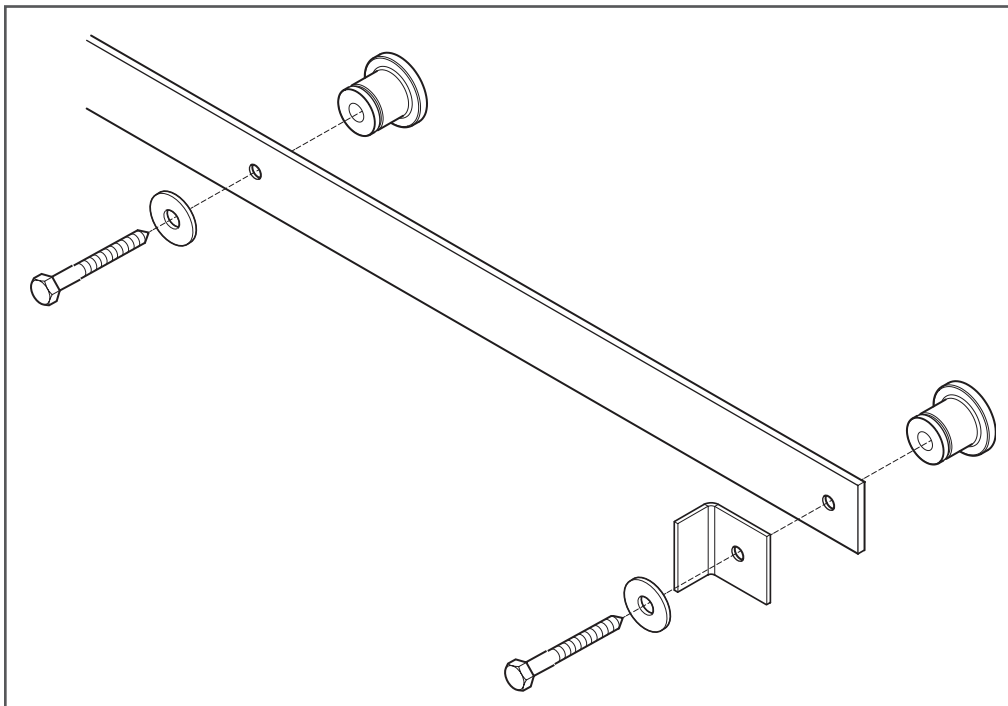

Figure 2
2. Remove the last two lag screws, washers, and hard stop from the track (Figure 2).